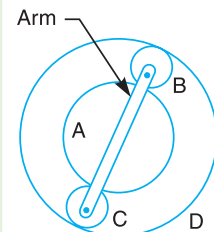

Fig. 13.11
**Example 13.7.** An epicyclic train of gears is arranged as shown in Fig. 13.11. How many revolutions does the arm, to which the pinions B and C are attached, make :